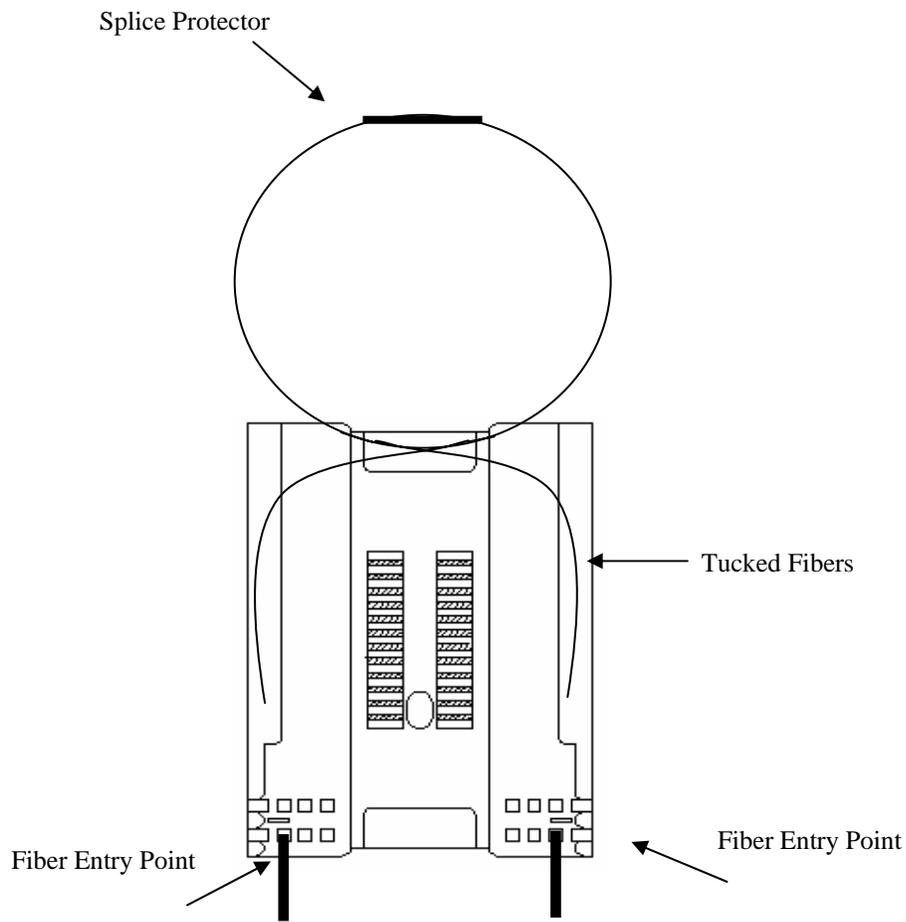

Figure 15 – Figure Eight Pattern
Step 25 – Rotate splices 180 degrees causing fibers to cross and create a figure eight pattern (See Figure 15 below).